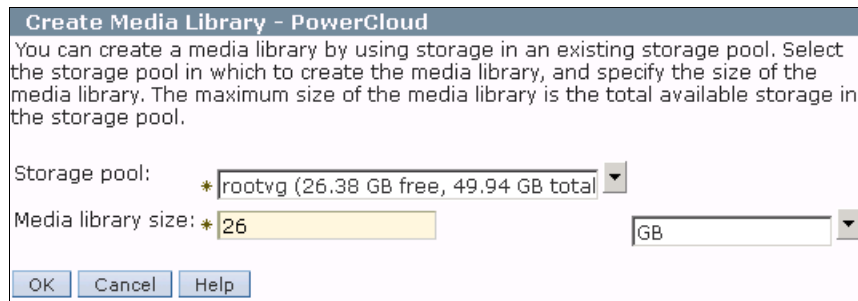

Figure 3-26 Creating the media library
- Figure 3-26 shows the Create Media Library window. Enter the media library size. The maximum size depends on the VIOS disk that is used. Ensure that it is large enough to store the image files. Click **OK**.